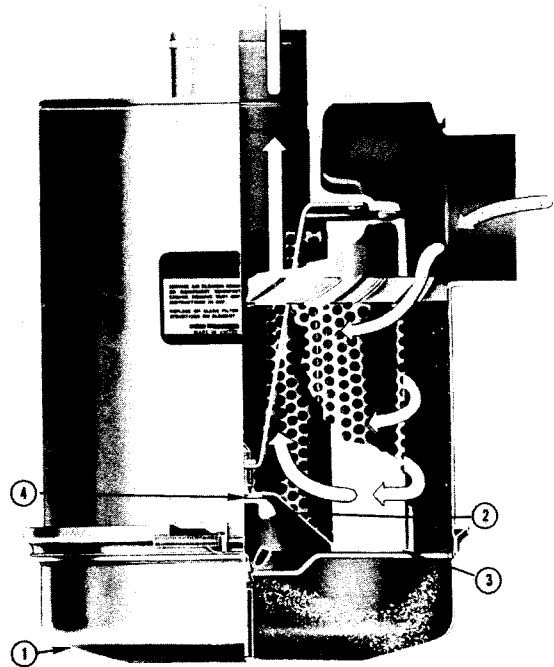
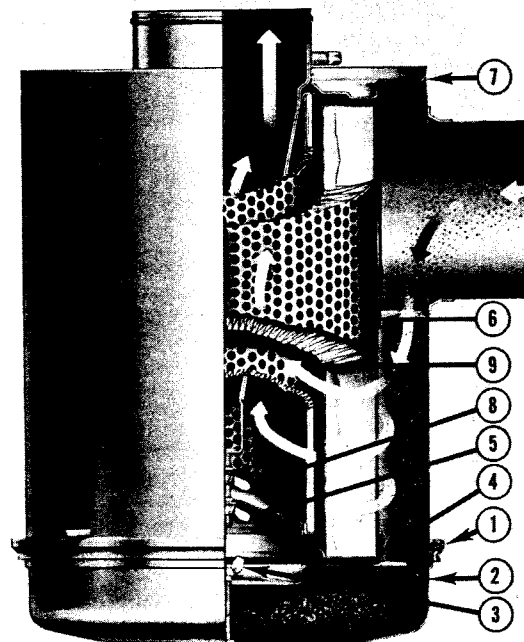

Fig. 2-5 (V10005) Air cleaner — heavy duty
Fig. 2-6 (N11030) Air cleaner — heavy duty dual element
Heavy duty air cleaners (single and dual types) combine centrifugal cleaning with element filtering, Figs. 2-5 and 2-6, before air enters engines.
1. Loosen wing bolt, remove band securing dust pan (1, Fig. 2-5), (2, Fig. 2-6).
2. Loosen wing nut (2, Fig. 2-5 and 3, Fig. 2-6), remove dust shield (3, Fig. 2-5), (4, Fig. 2-6), from dust pan (1, Fig. 2-5), (2, Fig. 2-6), clean dust pan and shield.
3. Remove wing nut (2, Fig. 2-5), (5, Fig. 2-6) securing air cleaner primary element (6, Fig. 2-6) in air cleaner housing, inspect rubber sealing washer on wing nut (4, Fig. 2-5), (5, Fig. 2-6).
- a. Check air restriction indicator, if air restriction is excessive, disassemble air cleaner, remove wing nut (8, Fig. 2-6), and replace safety element (9).